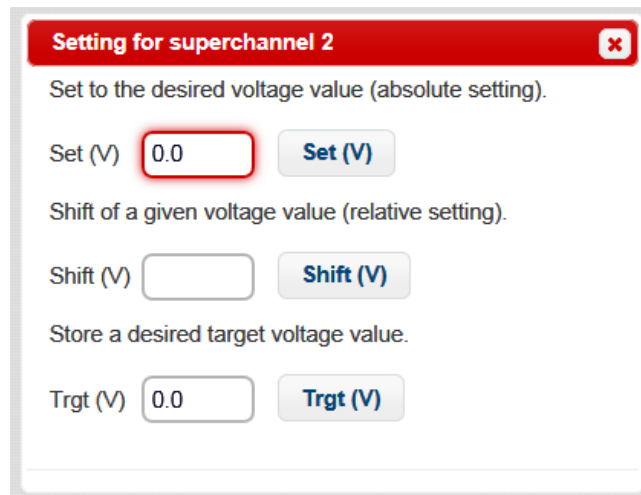

Figure 20: the “wrench”  dialog box (e.g. superchannel 2)
- the “wrench”  button on the bottom left of each channel/superchannel opens a dialog box that allows the setting of the voltage values for the HV channel. This dialog box is shown in **Figure 20**. Voltages can be set either in with an absolute value – Set (V) – or with an absolute value – Shift (V). The Target Voltage can also be set from this box – i.e. Trgt (V).